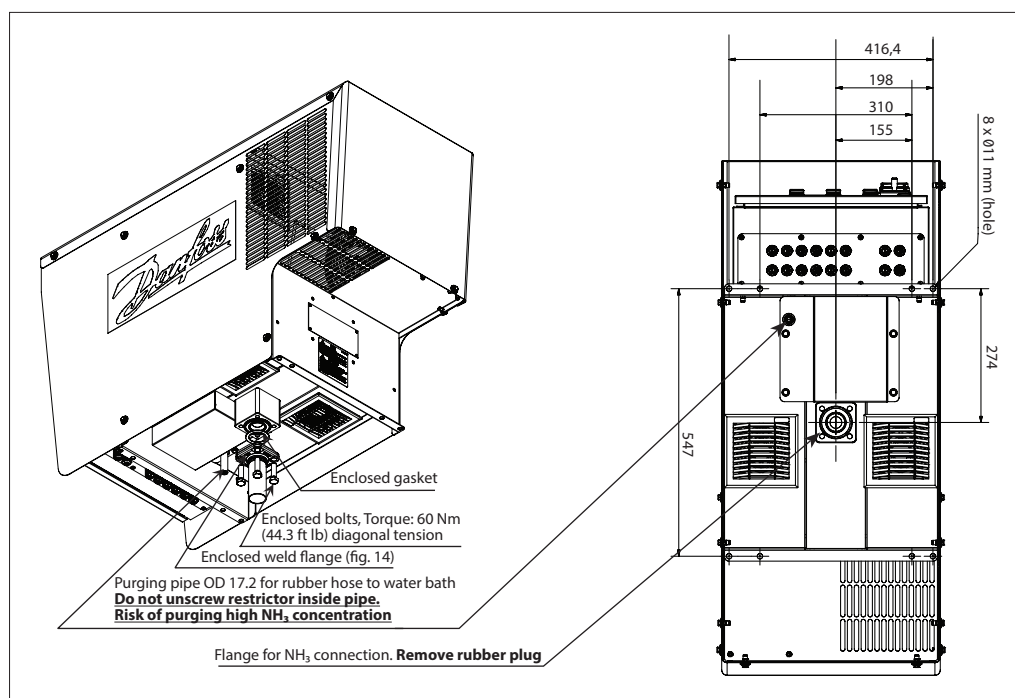
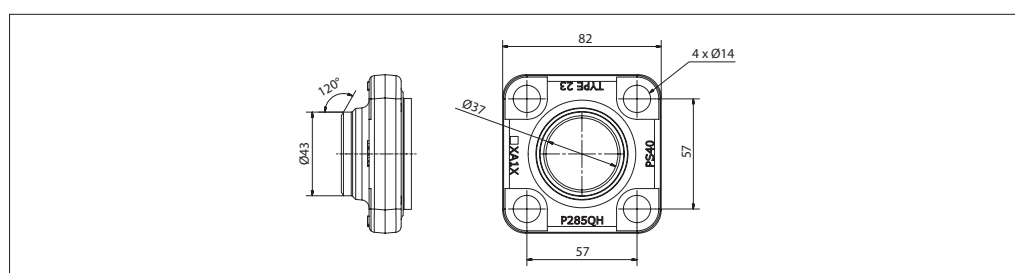

Fig. 13 Ammonia connection
Fig. 14 Enclosed weld flange
1. Prepare the ammonia pipework with the weld flange according to Fig. 13 and Fig. 14. The main/drain piping should never be smaller than inner diameter Ø37 mm (1.5 in).
3. Lift the purger into position using the lifting eyes on each side of the purger's cabinet. **Remove the rubber plug from the flange opening. See Fig. 13.**